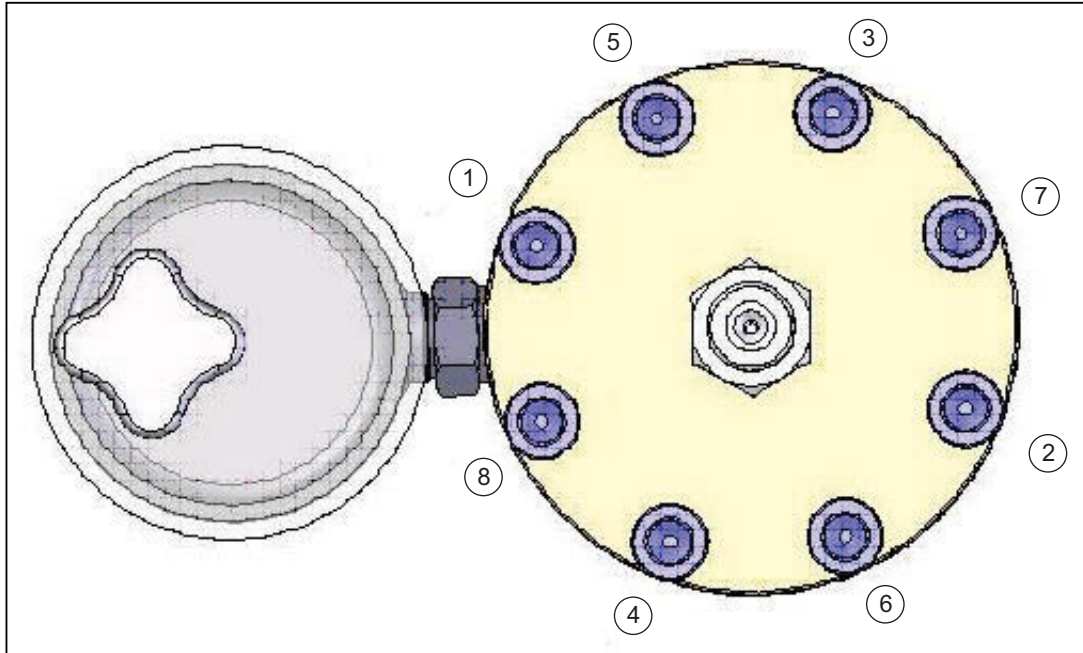

Figure 4-1. Screw Torque Sequence
1. Remove the 8 screws (13) in the order shown in Figure 4-1.
2. Lift off the top plate (18) assembly.
3. Remove diaphragm (20) and o-ring (21).
4. Clean and inspect the inside surfaces of top plate (18) and bottom plate (22) for signs of damage.
5. Check the operation of the mushroom valve (19) in the top plate assembly—it should move easily, and be held off of the inside surface of the chamber by a light spring-force, in its rest position.
6. Replace both the diaphragm (20) and o-ring (21) with new items, ensuring that the o-ring groove is clean.
7. Place the top plate assembly over the bottom plate assembly, and replace the screws (13) finger-tight only.
8. Re-tighten the screws to 50 ft-lb in the order shown in Figure 4-1.